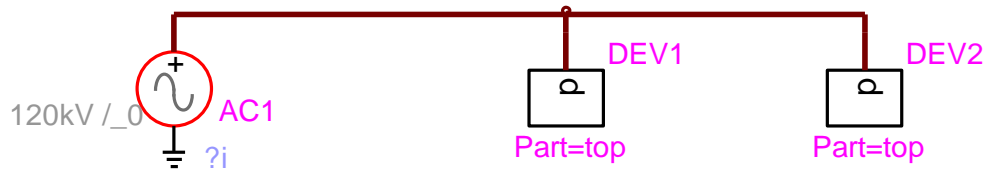
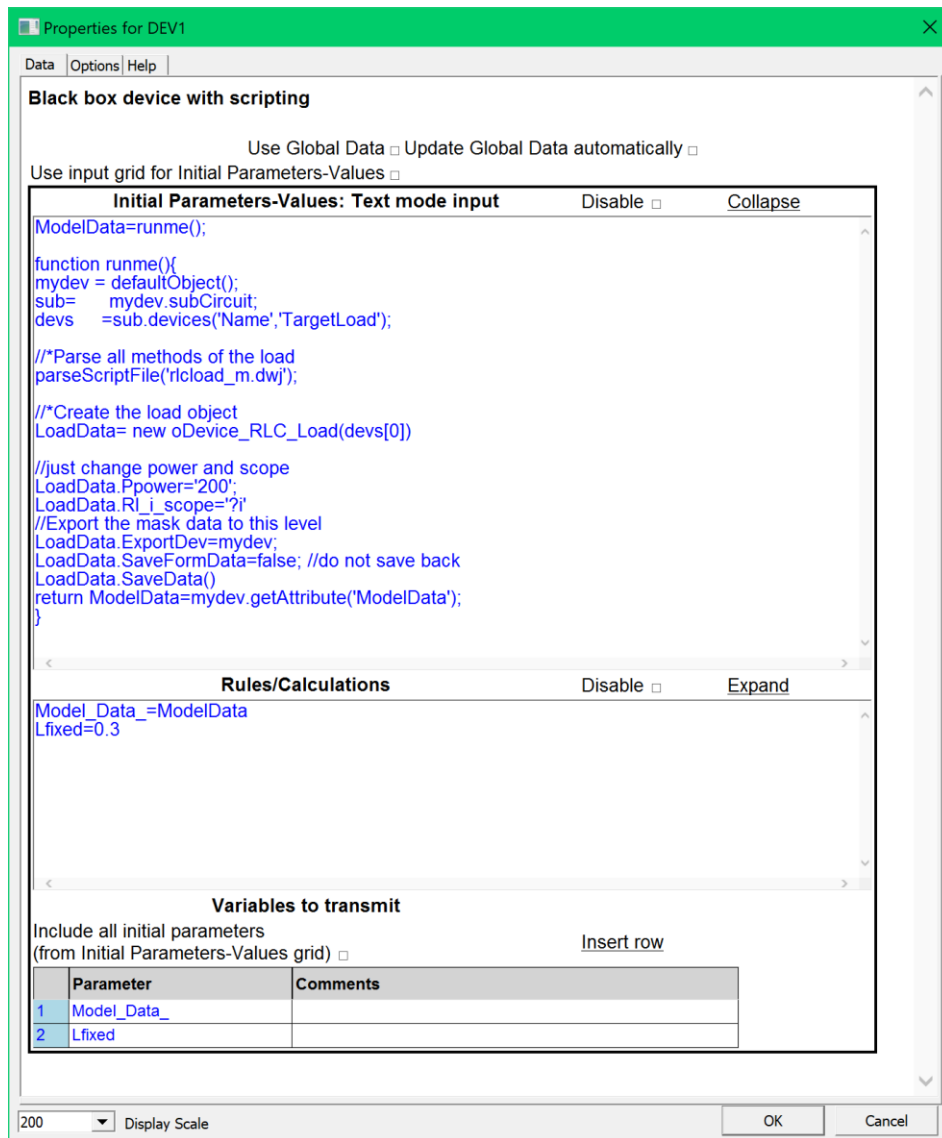

Figure 23 Example with 2 subcircuits containing scripted-mask-subcircuits (maskload.ecf)
Figure 24 Scripted mask for subcircuit DEV1 in Figure 23
In some cases it may be necessary to mask a subcircuit that contains one or more scripted-mask-subcircuits. Since all entered data in a scripted-mask-subcircuit is completely determined when the OK button is clicked, it is not possible to use named values assigned at a higher level. In the example of Figure 23, DEV1 and DEV2 are identical (function “top”) subcircuits containing an “RLC_Load (PQ)” load device named “TargetLoad”. It is needed to mask the Part “top” to allow changing only the load power or any desired data set. This is achieved through the mask shown in Figure 24.
The mask of Figure 24 is not restrictive, it can be used to mask other devices appearing in its subcircuit. In other words it can be used to set other named values or scripted-mask-subcircuits. Several different functions can be called from the “Initial values” section and other variables can be transmitted. In the example of Figure 24, an extra variable Lfixed is sending data for an inductance appearing in the subcircuit.